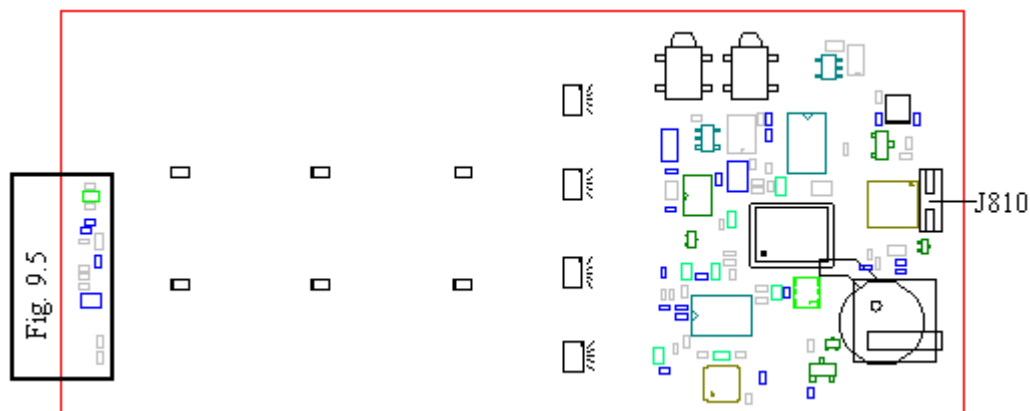

Fig. 9.1
- If the fault remains, make sure the earphone connector (J810, fig. 9.1) is intact and correctly soldered.